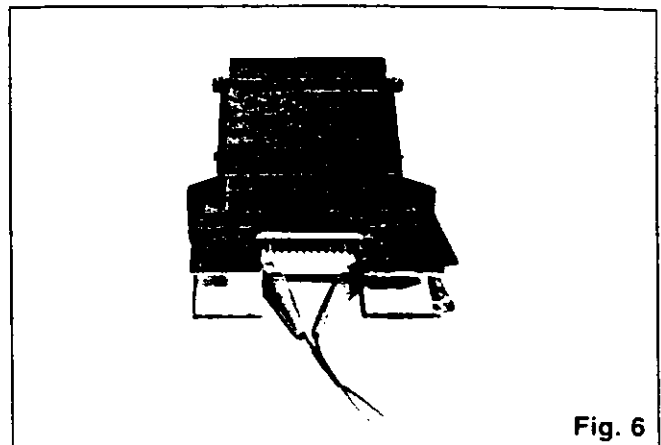

Fig. 6
1. Clip Megger or dielectric tester leads onto the flash plates at the points shown in Figure 6 using alligator clips or the equivalent.